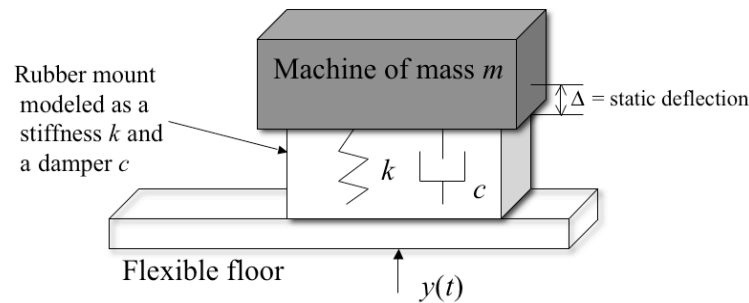

Figure P2.37
- 2.37** A machine weighing 2000 N rests on a support as illustrated in Figure P2.37. The support deflects about 5 cm as a result of the weight of the machine. The floor under the support is somewhat flexible and moves, because of the motion of a nearby machine, harmonically near resonance ($r=1$) with an amplitude of 0.2 cm. Model the floor as base motion, and assume a damping ratio of $\zeta = 0.01$, and calculate the transmitted force and the amplitude of the transmitted displacement.